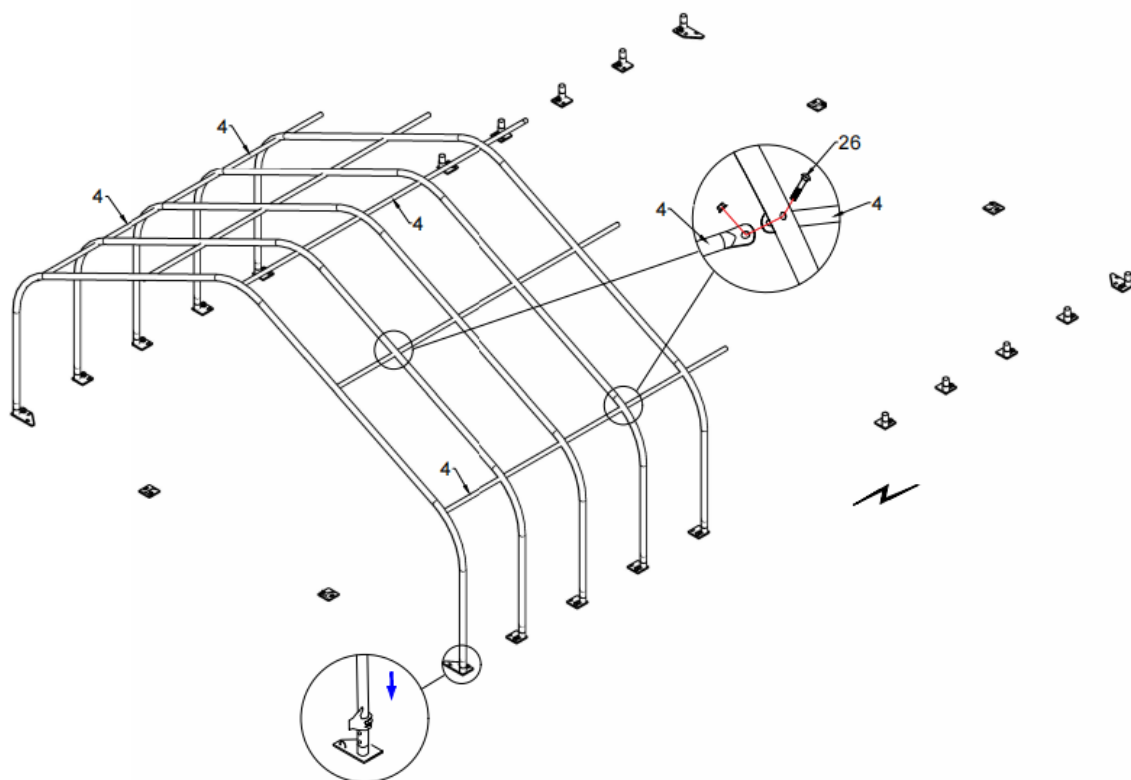

Figure 3
3.2 As Figure 3 shown to fix Purlin (No.4) by using Carriage Bolt M12*110 (No.26).